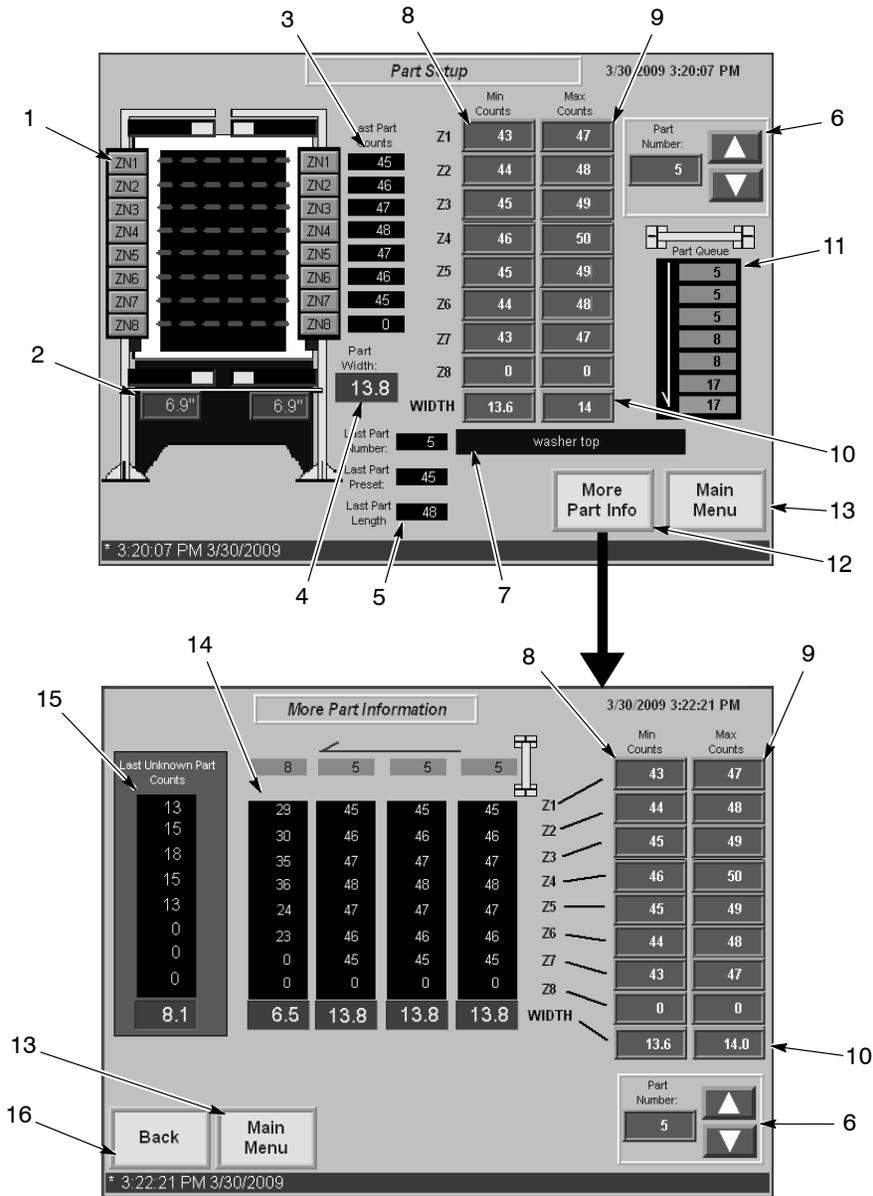

Figure 5 Part ID Screen
Part Setup: Opens the Part ID Setup screen (Figure 5). Use this screen to configure the Part ID system. You must be logged in to the system to make changes on this screen.
See Figure 5. Touch the Part Setup button on the Main screen to open the Part Setup screen. Use this screen and the More Information Screen to enter the dimensions for each Part Number.
1. See Figure 5. Select a Part Number (6).
2. Hang a part on the conveyor and run it through the part ID stand. The number of encoder counts that a part was detected for each zone appear in the Last Part Length fields (3) and the width in inches appears in the Last Part Width field(4).
4. Enter the Maximum and Minimum width in the width fields (10).
If you want to adjust part number dimensions during production, use the More Information screen shown in Figure 5. This screen allows you to view the detected lengths and width of the last 4 parts in the queue, select the desired part to change, and adjust the maximum and minimum dimensions.